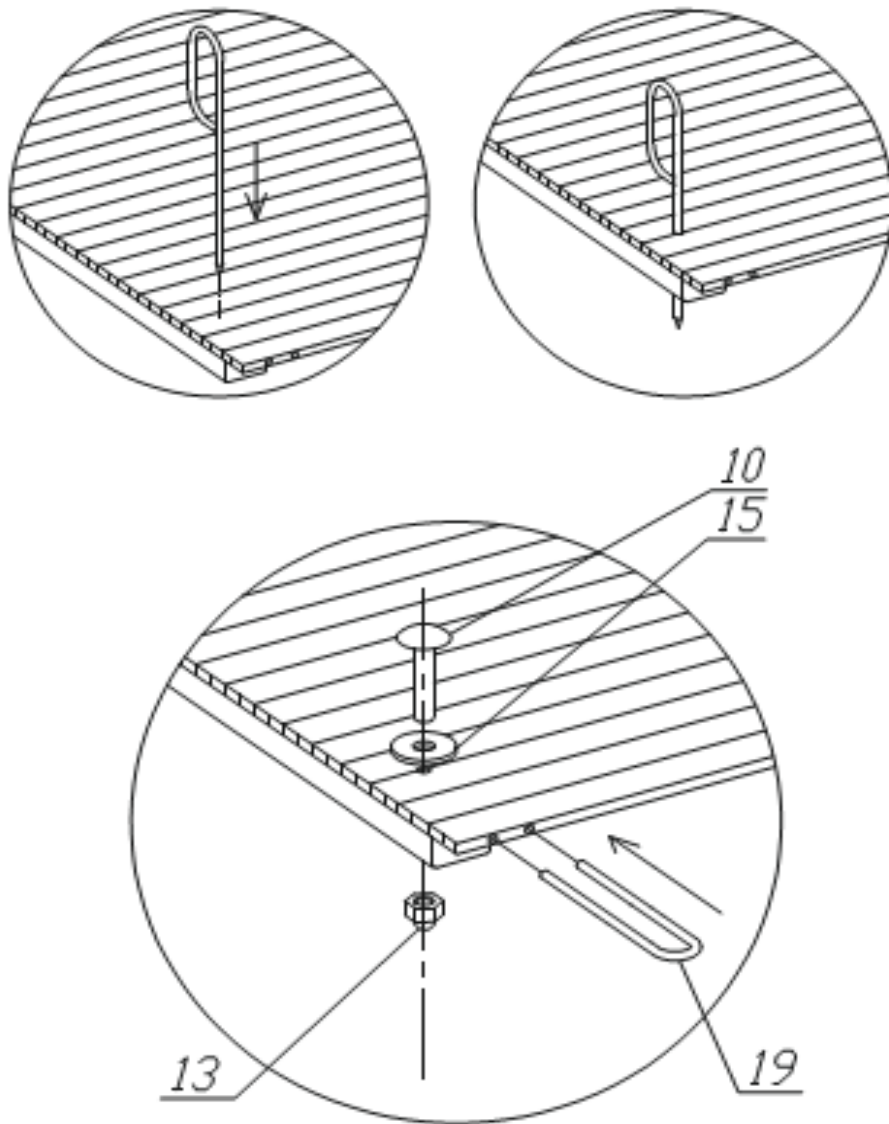

Fig. 10
Insert the staples into these holes (Position 19) (Figure 10).
5.2.3 Fix the bolt (Position 10) with the washer (Position 15) into the free holes at the edges of the handle-plank, after marking it with the stitching awl (Fig. 10).